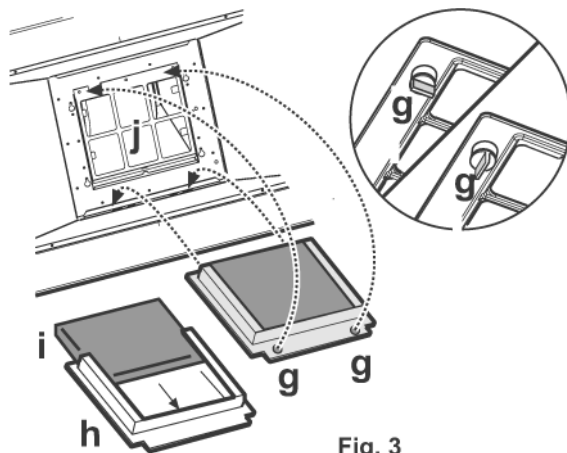

Fig. 3
2. Remove the filter holder by turning the knobs 90° (g - **Fig. 3**).
3. Fit the carbon filter (i - **Fig. 3**) in the filter holder (h - **Fig. 3**).